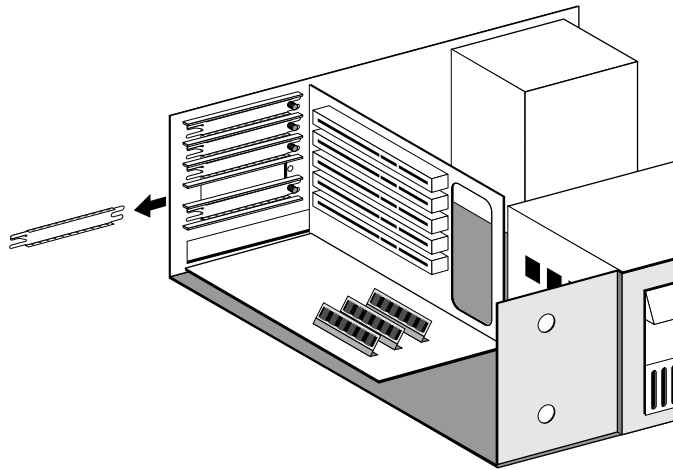

Figure 1-2. Removing the Backplate
7. Remove the expansion slot's backplate (see Figure 1-2).